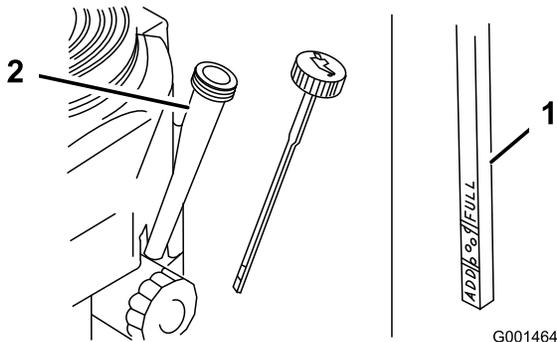

Figure 26
4. Clean around the oil dipstick (Figure 26) so that dirt cannot fall into the filler hole and damage the engine.
5. Unscrew the oil dipstick and wipe the end clean (Figure 26).
6. Slide the oil dipstick fully into the filler tube, but do not thread it onto the tube (Figure 26).
8. Slowly pour approximately 80% of the specified oil into the filler tube (Figure 26).